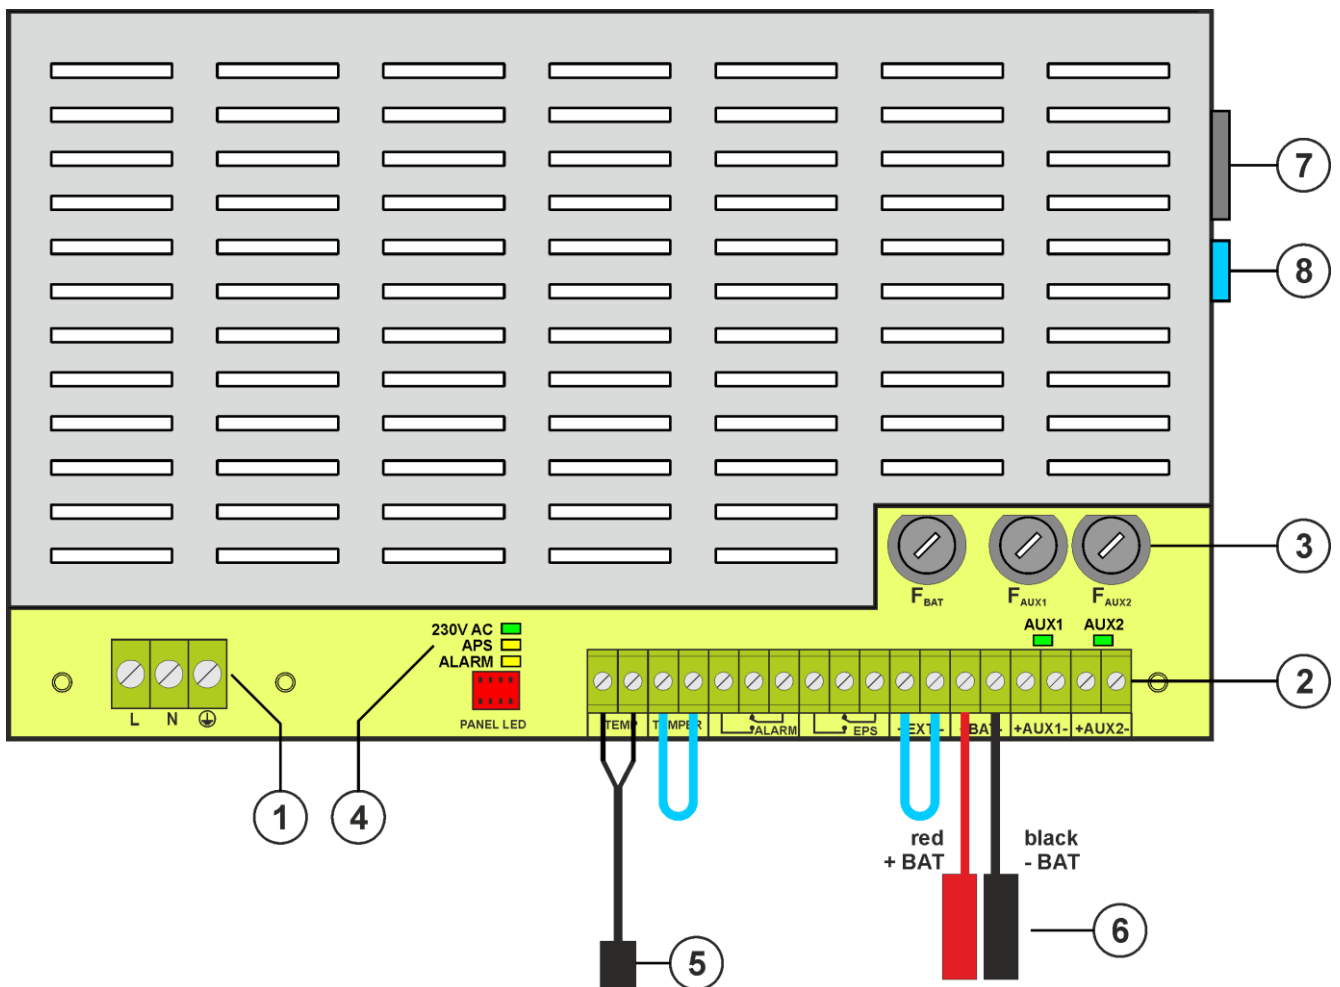

Fig. 2. View of power supply module based on EN54C-2A7LCD.
Table 1. Elements of PSU (Fig. 2).
①	230 V supply connector with a terminal for connection of a protective conductor
②	<p>Terminals:</p> <ul style="list-style-type: none"> TEMP – input of the battery temperature sensor TAMPER – input of the microswitch tamper Closed input = no indication Open input = alarm ALARM – technical output of collective failure of the PSU - relay type EPS – technical output of AC power failure indication open = AC power failure closed = AC power - O.K. EXTi – external failure input closed input = no indication open input = alarm +BAT- – terminals for connecting the battery +AUX1- – AUX1 power output (- AUX=GND) +AUX2- – AUX2 power output (- AUX=GND) <p>CAUTION! In Fig. 2 the set of contacts shows a potential-free status of the relay, which corresponds to power supply failure.</p>
③	Fuses: F_{BAT} – fuse in the battery circuit, F_{AUX1} – fuse in the AUX1 output circuit, F_{AUX2} – fuse in the AUX2 output circuit, The fuse values are given in table 12 – "Electrical parameters".
④	LEDs – optical indication: 230 V AC – voltage in 230 V AC circuit APS – battery failure ALARM – collective failure AUX1 – AUX1 output voltage (at the AUX1 connector) AUX2 – AUX2 output voltage (at the AUX2 connector)
⑤	Battery temperature sensor
⑥	Battery connectors; positive: +BAT = red, negative: - BAT = black
⑦	LCD connector
⑧	Communication interface connector
①	PSU (tab. 1, Fig. 2)
②	Battery temperature sensor
③	Battery connectors; positive: +BAT = red, negative: - BAT = black
④	Place to install fuse module: INTE-C, INTR-C, INTRE-C
⑤	A place for installation of additional modules
⑥	TAMPER; microswitch (contacts) of antisabotage protection (NC)
⑦	Fitting battery
⑧	Embossing for cable gland
⑨	Embossings for concealed wires
⑩	Lock